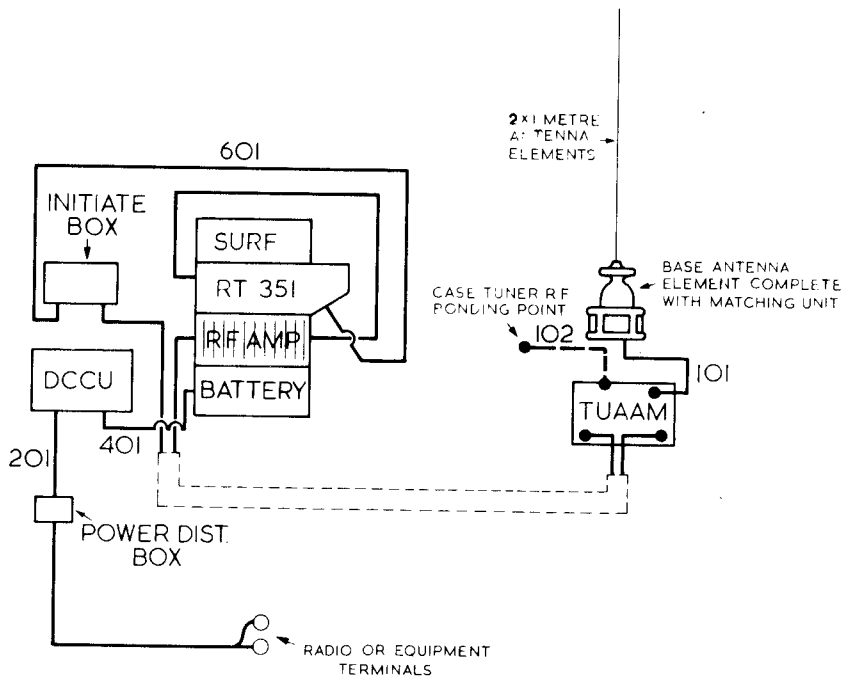

Fig. 14 Block schematic
2.7 These are shown in the block schematic fig. 14. All cables are to be clipped to the equipment rack or vehicle, as appropriate, to ensure that there is no possibility of damage to the cables. Clips for this purpose are stowed in a linen bag attached to cable assembly, power, electrical (5995-99-637-9887).
2.8 Bonding connections are shown in the block schematic fig. 14. Paint is to be removed from around the chosen bonding points down to bare metal. Details of bonding for wing-mounted equipment are given in para 2.5.